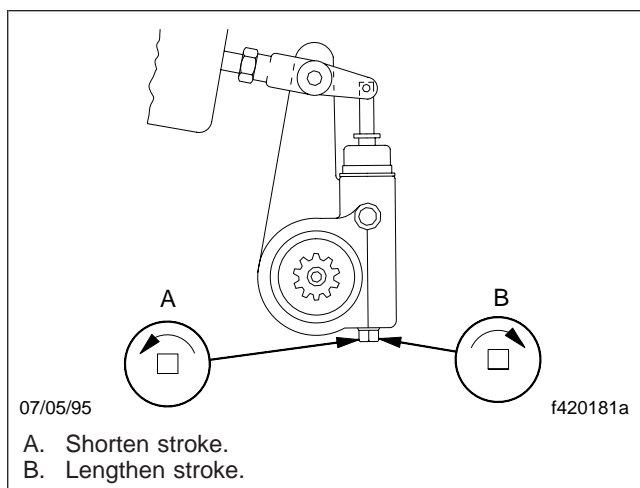

Fig. 4, Brake Stroke Adjusting
- 4.4 Turn the adjusting nut 1/8 turn, as shown in **Fig. 4**. Measure the stroke again, and adjust until correct.
- 5.4 Turn the adjusting nut one-eighth turn, as shown in Fig. 4. Measure the stroke again, and adjust until correct.